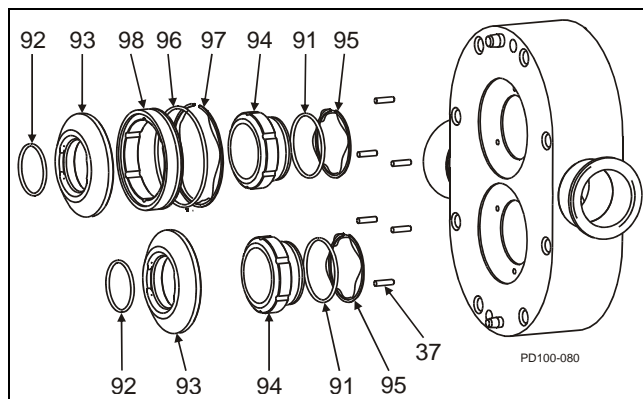

Figure 67 - Single (Bottom) and Double (Top) Mechanical Seal Exploded View
1. Lubricate shaft o-ring (Figure 67, item 92) with lubrication compound compatible with o-ring material and process fluid(s). Place o-ring on shaft.
2. Install rotating seal seat (item 93) on shaft. Align drive flats on seat with drive flats on shaft.
4. Install inner wave spring (item 95) onto inner seal (item 94).
5. Lubricate inner seal o-ring (item 91) with lubrication compound compatible with o-ring material and process fluid(s). Install inner seal o-ring into groove of inner seal.